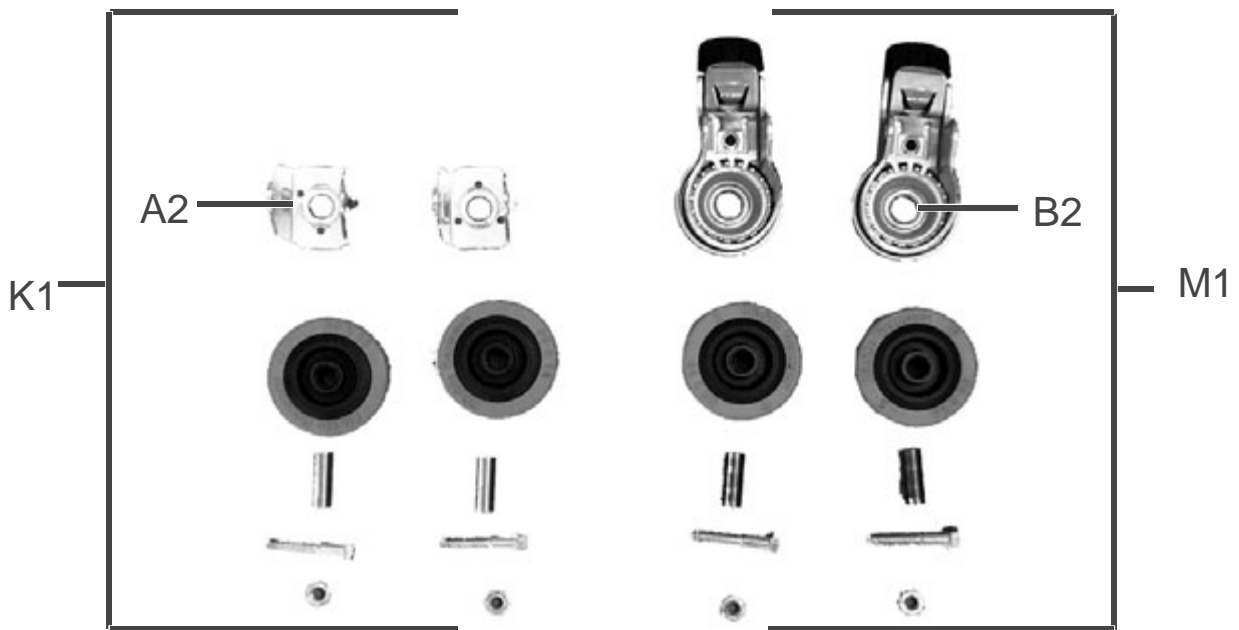

Fig. 3: Disassemble wheels
- Before assembling the wheel kit, the fixed castors (K1) and the guide castors (M1) need to be fully disassembled. (For individual parts of rollers, see fig. 3)